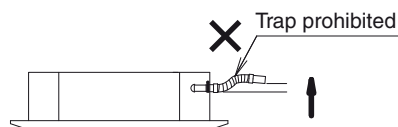

Fig. 3-10
- Do not make a trap in the middle of the supplied drain hose. Doing so will cause abnormal sound. (Fig. 3-10)